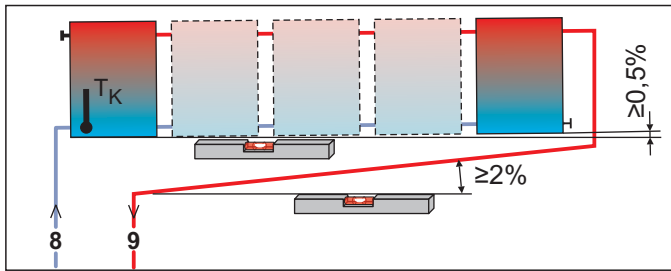
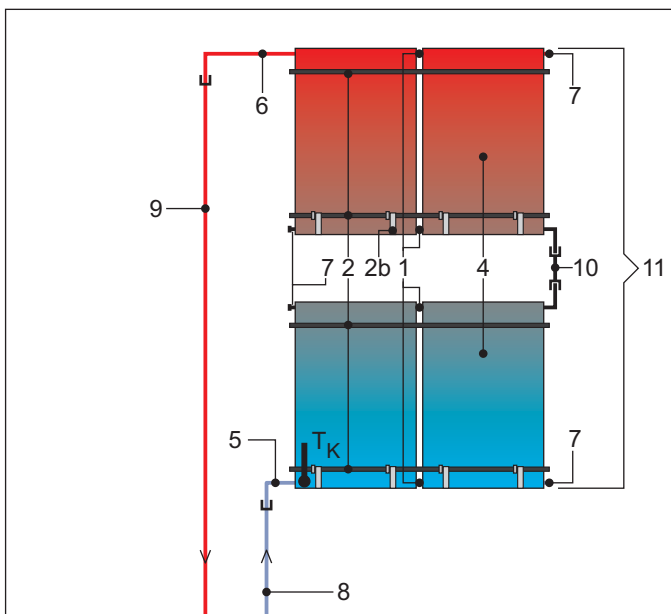
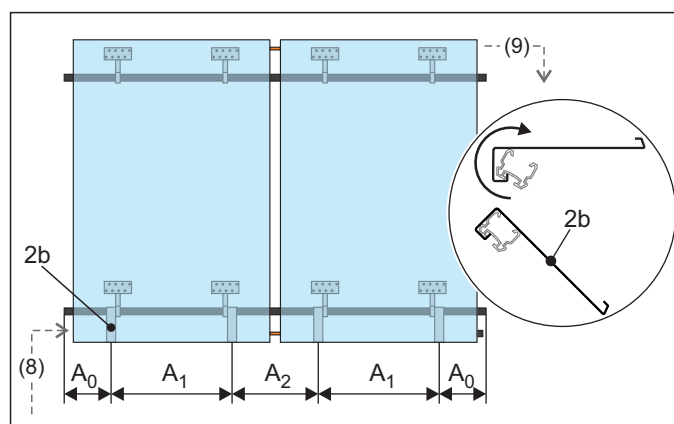

Fig. 4-1 Two-way connected solar panel array (recommended)
Fig. 4-3 Alternative solar panel arrangement
Fig. 4-8 Step 1: Alignment of the securing clips
As an alternative to the parallel circuits of the solar panels described in these instructions, a maximum of three rows of solar panels can also be installed above one another if required. Solar panels or solar panel arrays installed in this way must be connected in series (fig. 4-3).
Tab. 4-1 Legend for fig. 4-1 to fig. 4-3 and fig. 4-8
- The inflow connecting pipe (VA15 Solar) must be connected to the top and the return flow connecting pipe (VA18 Solar) to the bottom of the solar panel (see fig. 4-1 to fig. 4-3 and fig. 4-8).
1. Hook the solar panel securing clips in the guide groove of the lower mounting profile and tilt downwards. After they have been hooked on, the solar panel securing clips can be moved sideways (see fig. 4-8 and tab. 4-3).